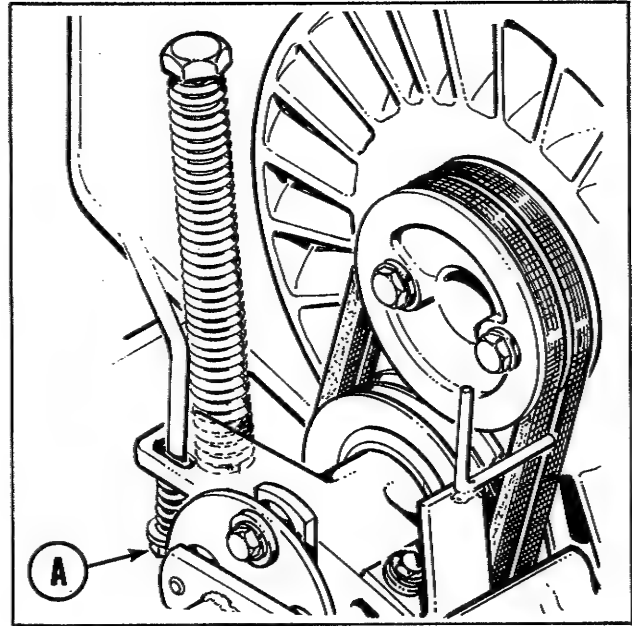

Figure 12. Clutch pedal free travel adjustment.
2. See figure 12. Using a 9/16" wrench, turn the lock nut (A) counter-clockwise to increase the amount of free travel or clockwise to decrease the free travel. Alternately check the amount of free travel and turn the lock nut until the